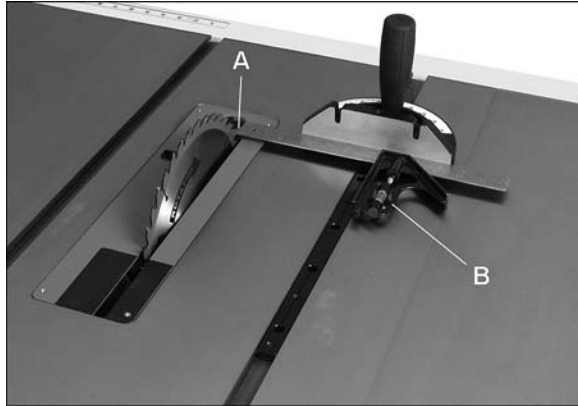

Figure 8-9
Refer to Figures 8-9 and 8-10.
4. Raise the miter gauge slightly out of its slot to serve as a shoulder. Place a sliding square (B) against side of miter bar, slide the scale over until it touches the tip of blade, and lock the scale in position. See Figure 8-9.